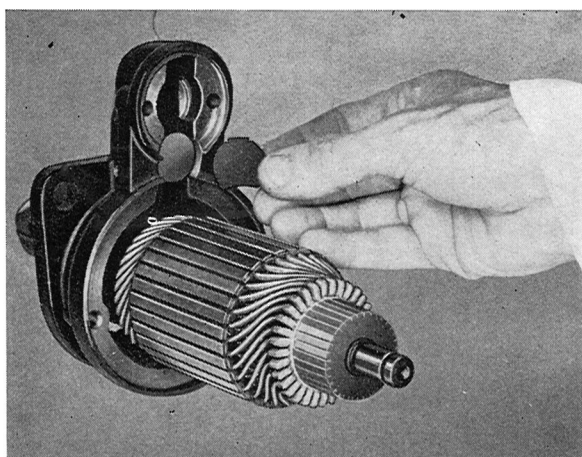

Fig. 3-84. Removing sealing washer
9. Remove the rubber washer and metal washer, see Fig. 3-84.